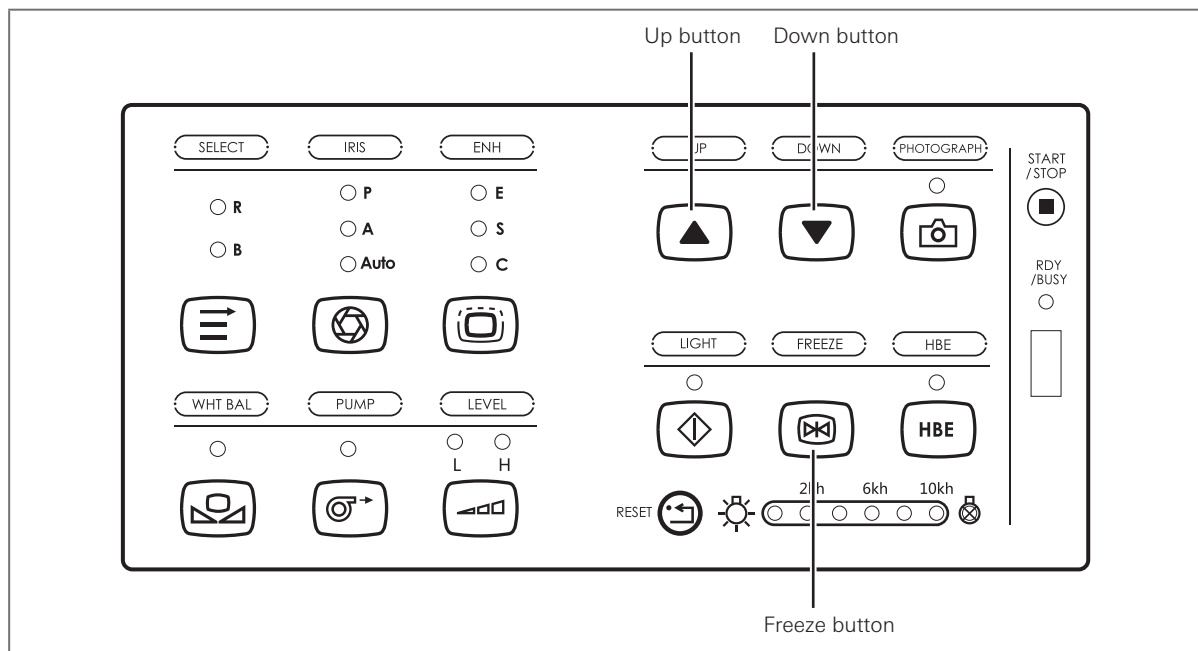

Figure 4.9
1. Press the freeze button on the handle of the endoscope, the freeze button on the front panel (see Figure 4.9) or the F6 key on the keyboard to freeze the image. (Refer to the compatible video endoscopes' IFU.)